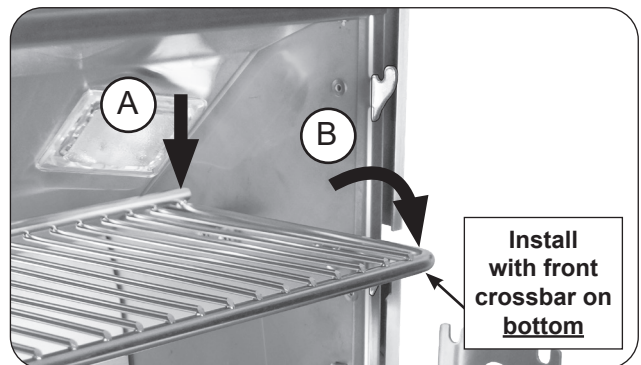

Fig. 23-2 Place warming rack for use
2. With the warming rack oriented as shown, carefully rest the rear of the rack onto the rear support plates (see Fig. 23-2, A), then lower the warming rack arms onto the lower hooks for use (see Fig. 23-2, B).